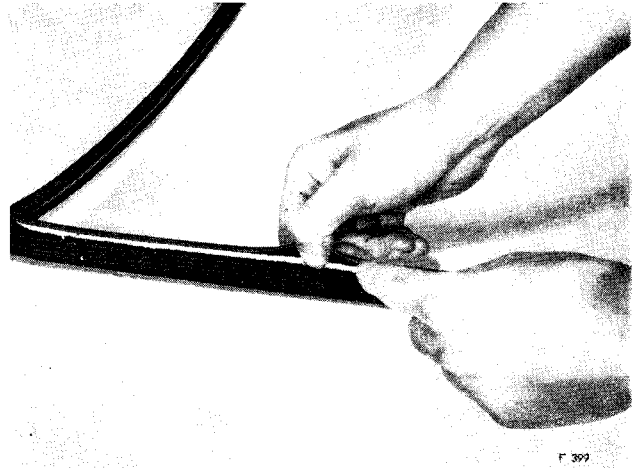

Fig. 59. Inserting cord into weatherstrip channel
1. Insert a length of strong cord into the inner channel of the rubber, positioning the loose ends at the lower centre of the glass (Fig. 59).